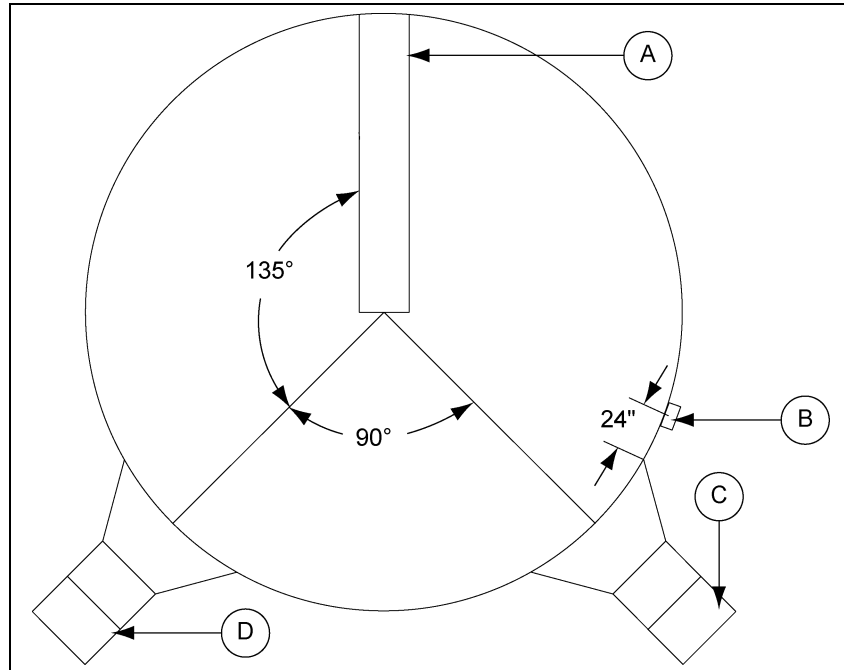

Figure 3C
IMPORTANT: When mounting two (2) heaters on a bin it is imperative that they be situated as shown in Figure 3C. Plenum thermostat (B) must be to the right of master heater (C) and master heater must be to the right of slave heater (D).